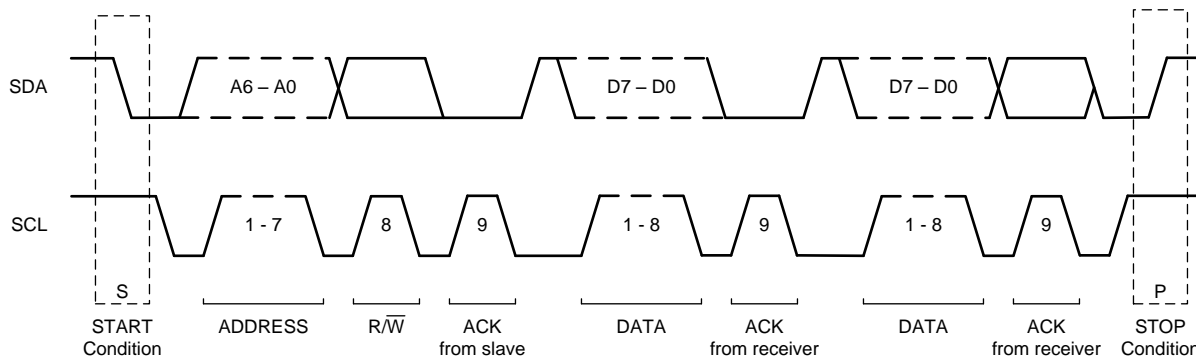

图 55. I²C Data Transfer Format
Figure 55 shows the format of the data transfer. The master initiates all transactions with the ADS122C04 by generating a START (S) condition. A high-to-low transition on the SDA line while SCL is high defines a START condition. The bus is considered to be busy after the START condition.